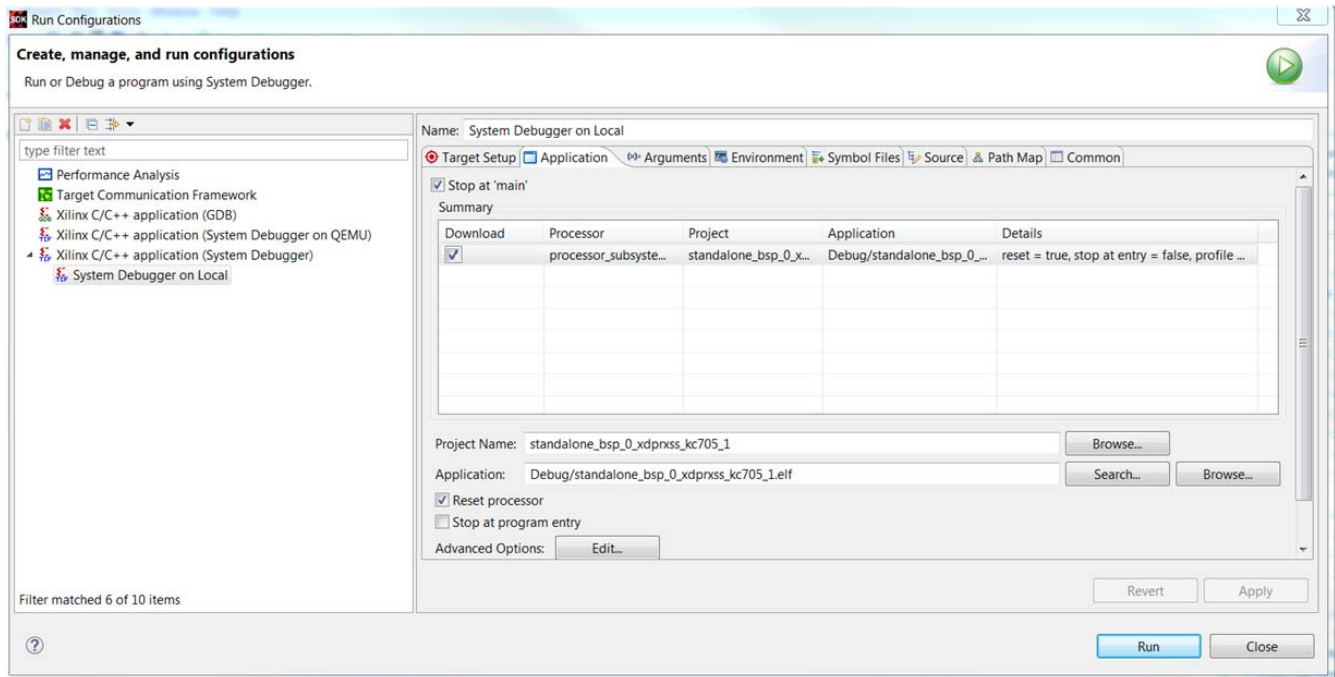

Figure 5-25: Application
12. In the **Application** tab (Figure 5-25), ensure the application download is enabled and click **Run**.